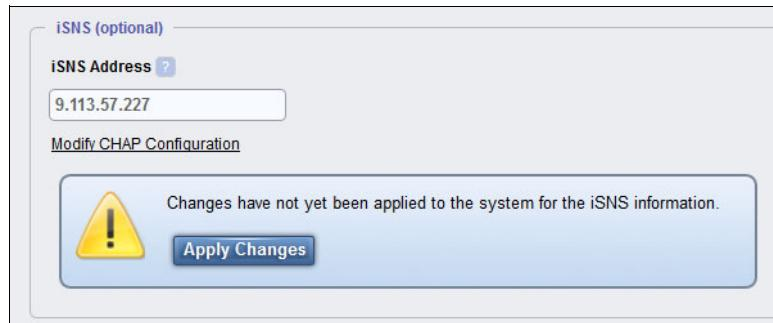

Figure 7-58 Applying changes for the iSNS address configuration
4. Click **Apply Changes**, as shown in Figure 7-58.